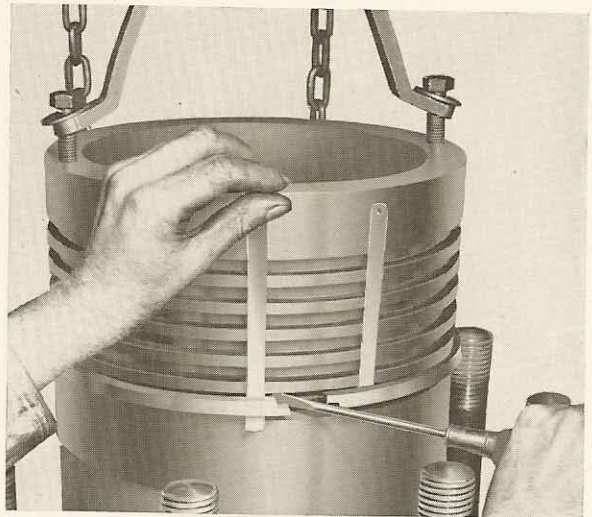
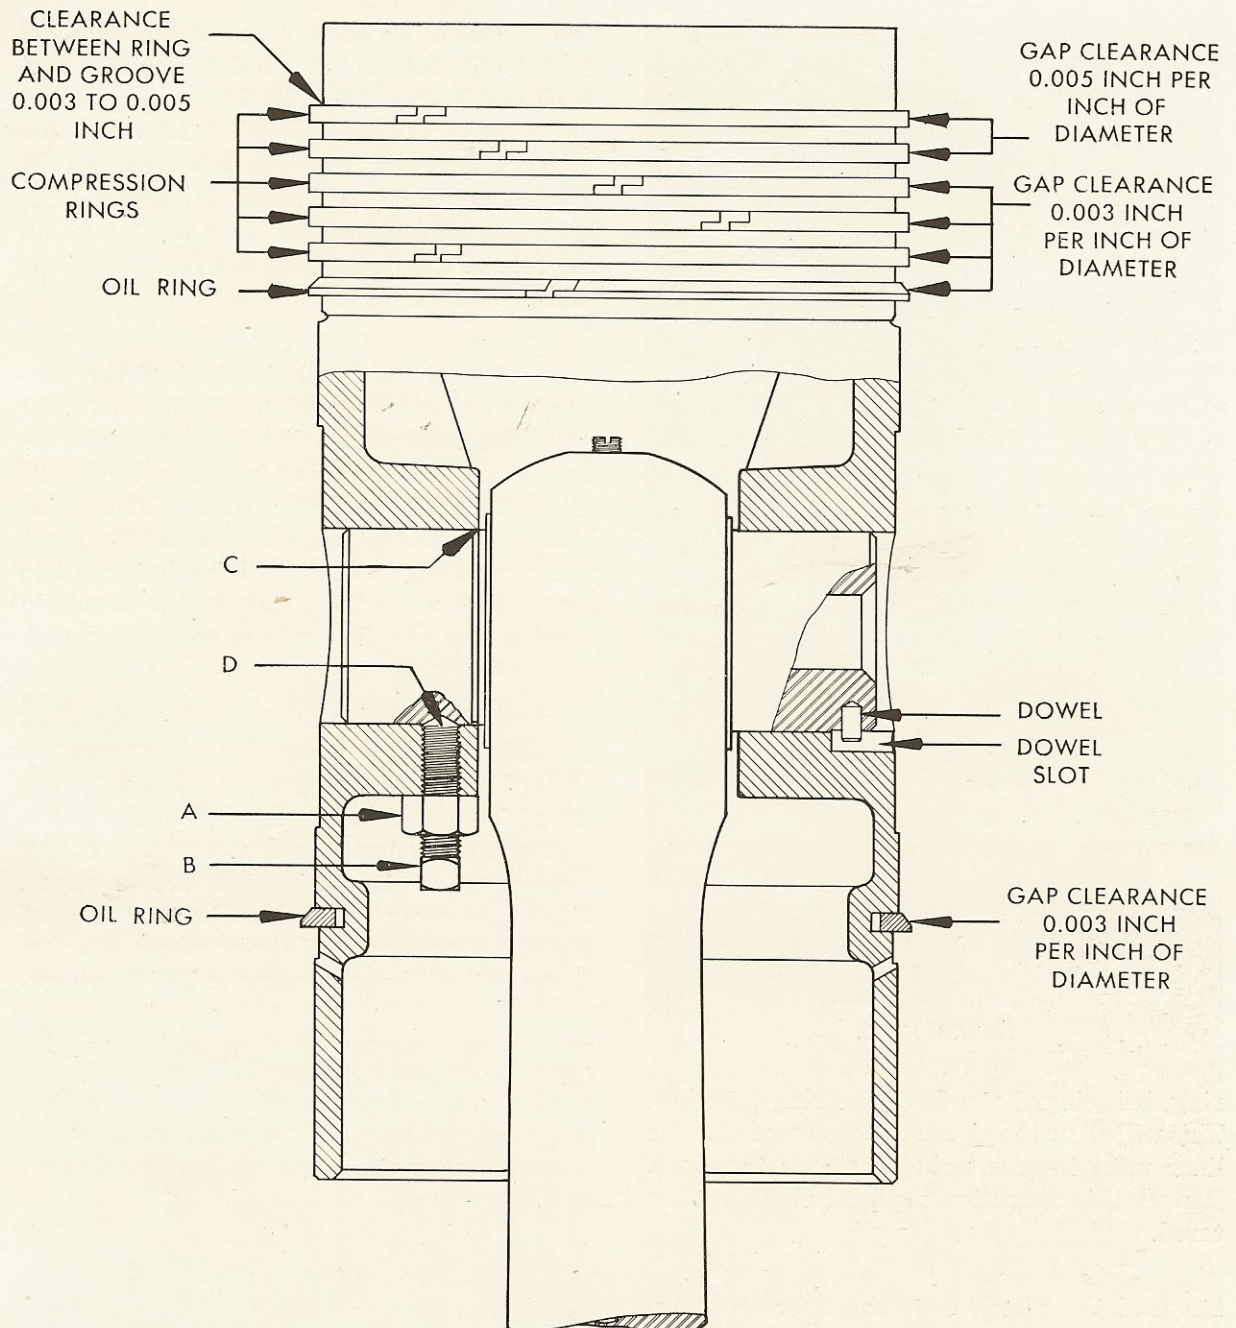
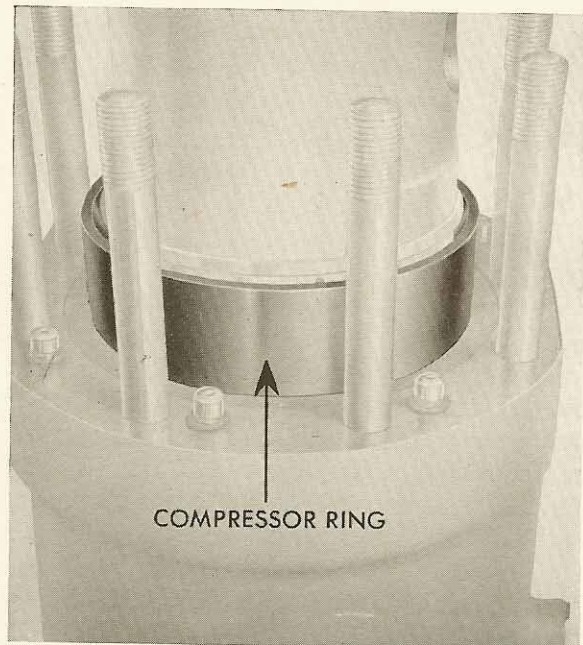

FIGURE 12-4
FIGURE 12-11
FIGURE 12-13
Pry the end of the ring out as shown in Figure 12-4 and insert one of the metal strips. This strip can then be worked around the ring and another started in the end of the ring. When the ring is completely withdrawn from the groove and supported by the strips alone, slip the ring over the top of the piston. Repeat this operation until all the rings are removed. When the rings are stacked on the bench be sure that they are arranged in the same order they were removed as it is important to know which groove a ring belongs in when measurement checks are being made.
Stand the piston and connecting rod on end as shown in Figure 12-5. Loosen the lock nut (A) and remove the set screw (B) shown in Figure 12-11. With the piston and connecting rod still on end, tie a rope around the foot of the rod and attach the other end of the rope to some fixture overhead so the rope just takes the weight of the connecting rod.
If the gap clearance of any ring exceeds 0.008 per inch of the inside liner diameter, the ring should be discarded. When fitting new rings, the gap clearance can be increased by filing the ends of the ring. When fitting new rings, make sure that the clearance between the top of the ring and the top of the ring groove is at least 0.003 to 0.005 inch. This check should be made with the ring in the same groove it is to be installed in. These clearances are all shown in Figure 12-11.
The bottom ring and the first ring above the piston pin are oil scraper rings and should be installed RIGHT SIDE UP as shown in Figure 12-11. After the rings are fitted for gap clearance they should be carefully stacked so they may be assembled on the piston in the order they were fitted.
BE SURE THE DOWEL ENTERS THE DOWEL SLOT. When the shoulder (C), Figure 12-11, comes up against the piston, drive the pin BACK one or two blows with a sledge. This relieves any tension and should leave the shoulder on the piston pin about $\frac{1}{64}$ of an inch
away from the piston. This measurement is not important as long as the shoulder does not touch the piston. Make sure the hole spotted in the piston pin (D), Figure 12-11, is directly under the set screw hole in the piston. Screw in the set screw tightly, and lock the lock nut.
rod. Smear oil over the walls of the liner. Set in the piston-ring compressor, as shown in Figure 12-13. This compressor ring is usually found among the engine room equipment and assists greatly in entering the piston rings in the liner without damage. If a compressor ring is not available, this job can be done by lowering the piston until the lower ring just rests on the top of the liner. Compress this ring by drawing a piece of strong cord around the
Suspend the piston over the liner as in removal, see Figure 12-13. Assemble the piston rings on the piston as in removal, see Figure 12-4. The OIL SCRAPER RINGS MUST BE INSTALLED AS SHOWN IN FIGURE 12-11. THE TWO COMPRESSION RINGS WITH THE GREATEST GAP CLEARANCE MUST BE INSTALLED IN THE TOP TWO GROOVES.